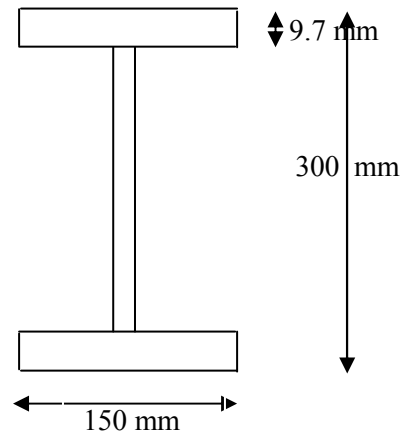

fig. 9
- Q.5** (a) The vertical shear action on a I- section is 200 KN. Find the shear flow and shear center of the section as shown in figure.9. Assume thickness in flange as 9.7 mm and thickness of web 6.7 mm $I = 71.97 \times 10^6 \text{ mm}^4$ **07**